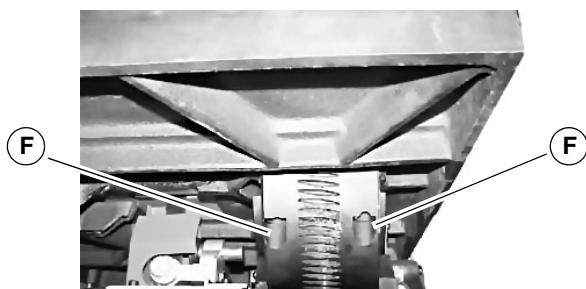

Fig. 11: Mounting the work table
Step 5: Using the 3 M8x30 Allen screws (pos. F, fig. 11), lightly mount the work table.
Step 9: Tighten all the fixing screws (pos. G & F, fig. 11 and fig. 12) of the worktable.